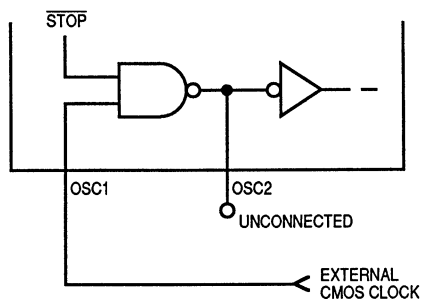

Figure 2-3. External Clock Source Connections
- An external clock signal connected to OSC1 (Refer to Figure 2-3.)
An external clock from another CMOS-compatible device can be connected to the OSC1 input, with the OSC2 input not connected, as shown in Figure 2-3. When ordering the MCU to use with an external clock, specify the crystal/ceramic resonator mask option.